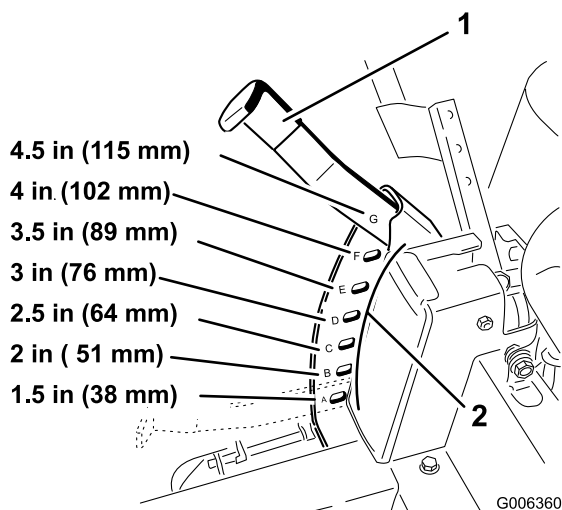

Figure 21
1. Raise the height-of-cut lever to the transport position, cutting height position **G** (also the 4-1/2 inch [115 mm]) (Figure 21).